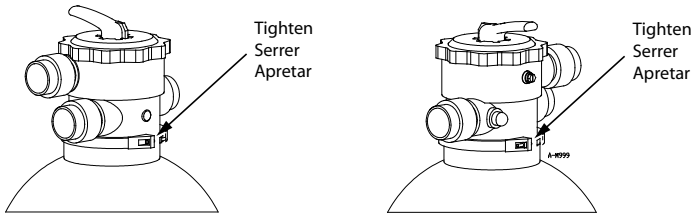

Figure 5
- Once the valve is in its final position and the plumbing is complete, firmly tighten both sides of the clamp alternately and evenly using a screwdriver (Figure 5).